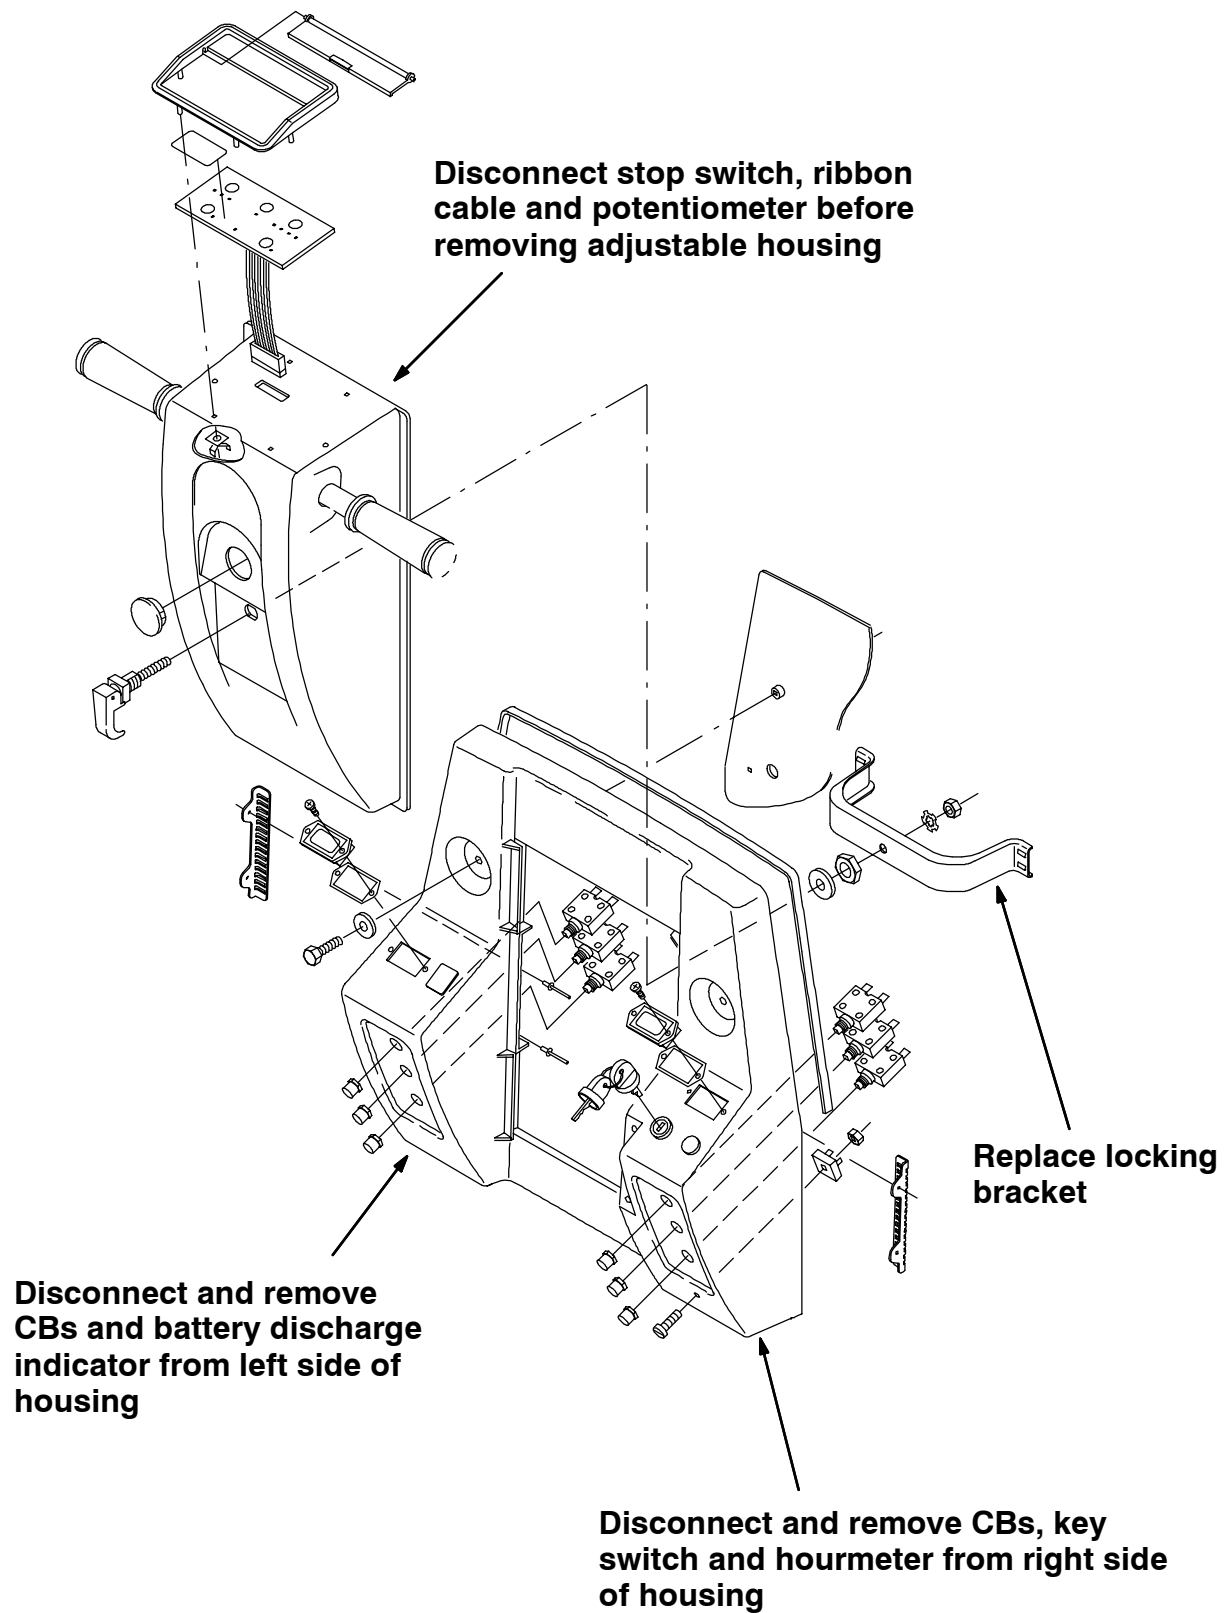

FIG. 1 - OLD SHROUD BREAKDOWN
(Refer to FIG. 1 and 2)
(Refer to FIG. 1)
2. Lower the squeegee to the floor. Lift the solution and recovery tank drain hoses off of their hose clips. Remove the M8 hex screws holding the rear electrical panel to the electrical mounting plate. (Refer to FIG. 1)
5. Unplug the potentiometer from the controller. Unplug the wire harness from the stop switch and the ribbon cable from the controller. Remove and set aside the speed control handle latch. Remove the shroud locking bracket from behind the shroud. Slide the adjustable steering housing out of the slots in the fixed steering housing. (Refer to FIG. 1)
6. Disconnect, remove and set aside the battery discharge indicator and circuit breakers from the left hand side of the shroud. (Refer to FIG. 1)
7. Disconnect, remove, and set aside the on/off key switch, hourmeter, and circuit breakers from the right hand side of the shroud. (Refer to FIG. 1)
8. Remove the hex screw and nut holding the squeegee lift handle to the fixed steering housing. Let the handle drop down off the housing. Set the handle aside. (Refer to FIG. 1)
9. Disconnect the housing from the lanyard strap. Remove and discard the fixed steering housing. (Refer to FIG. 1)